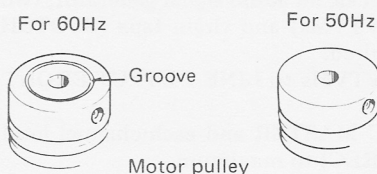

Fig. 27
3. Loosen the screw holding the motor pulley and replace the pulley. The pulley for 60Hz use has a groove as shown in Fig. 27.